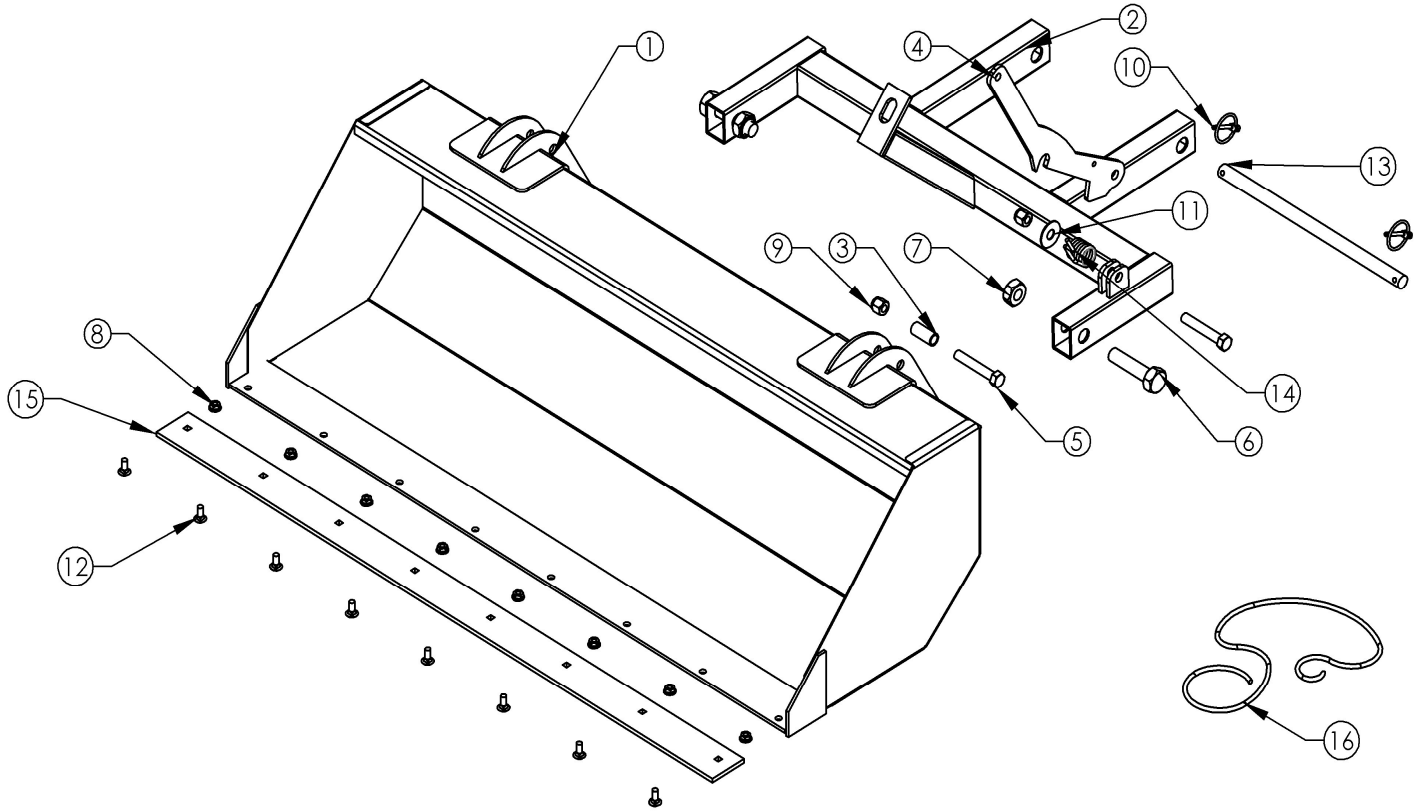

FIGURE 1
## ***REFER TO FIGURE 1 WHILE INSTALLING THE BUCKET ATTACHMENT***
1. BEGIN BY LAYING OUT THE PARTS SIMILAR TO FIGURE 1
2. ATTACH THE BUCKET HITCH(2) TO THE BUCKET(1) USING BOLTS(6) AND NUTS(7).
3. INSTALL THE LATCH REST BOLT(5), ROLLER BUSHING(3) AND NUT(9) TO THE BUCKET.
4. PLACE THE BUCKET LATCH(4) IN THE UPRIGHT TABS ON THE BUCKET HITCH(2) USING BOLT(5) TO HOLD IT THERE.
5. INSERT THE BENT PART OF THE SPRING(14) INTO THE BUCKET LATCH(4) ON THE SIDE FACING THE CENTER OF THE BUCKET HITCH(2) AND OVER THE BOLT(5) GOING THROUGH THE LATCH. THE LONG STRAIGHT PART OF THE SPRING WILL REST ON TOP OF THE BUCKET HITCH(2).
6. NEXT, PLACE THE WASHER(11) ON BOLT(5) ENDING WITH NUT(9), TIGHTEN THE ASSEMBLY UNTIL THE NUT IS ALL THE WAY ON THE BOLT, ALLOWING LATCH (4) TO ROTATE FREELY.
8. INSERT THE PLOW MOUNT PIN(13) THROUGH THE BUCKET HITCH AND THE ACCESSORY MOUNT.
9. SECURE THE PIN WITH THE CLICK PINS(10) ON EACH END OF THE MOUNT PIN.
10. TIE THE RED TRIP RELEASE ROPE(16) TO THE TOP OF THE BUCKET LATCH(4).